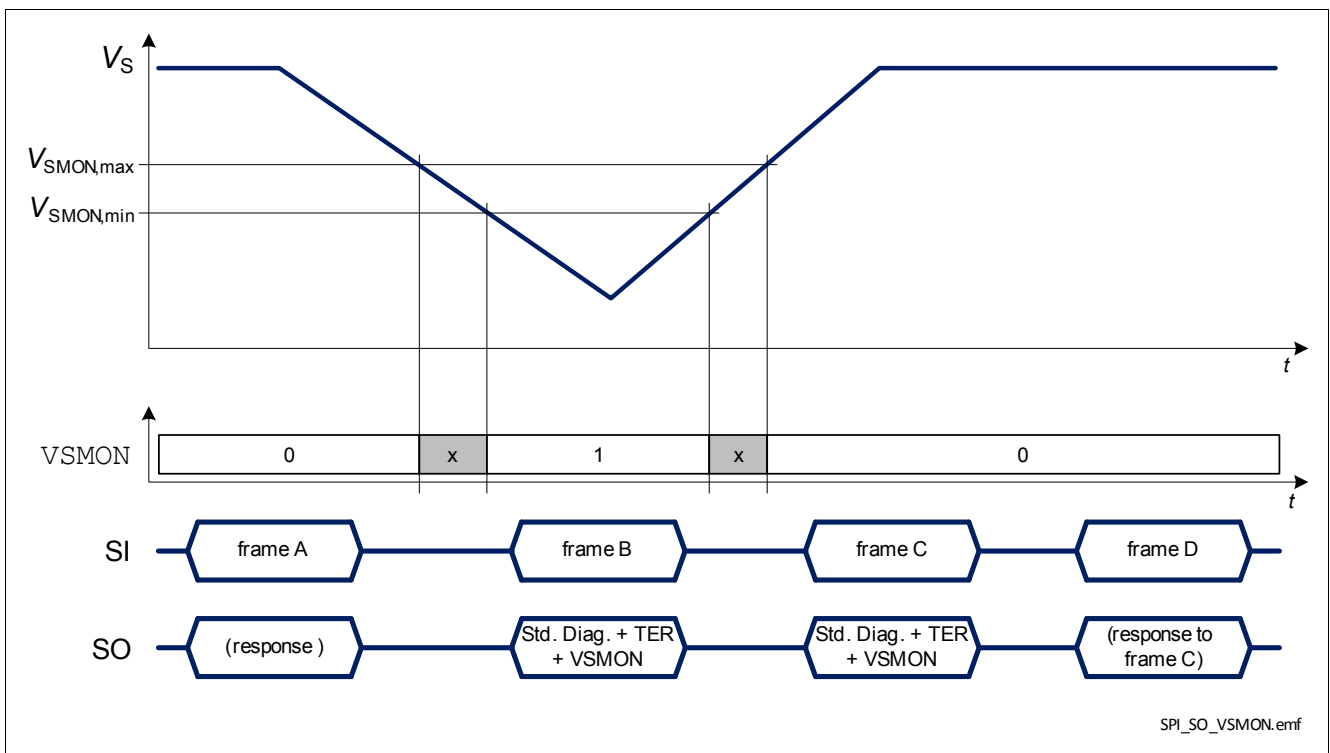

Figure 34 BTS54220-LBA response in case of a negative battery voltage transient
- when $V_S < V_{SMON}$ and $\text{DCR.MUX} \neq 111_B$, as shown in Figure 34